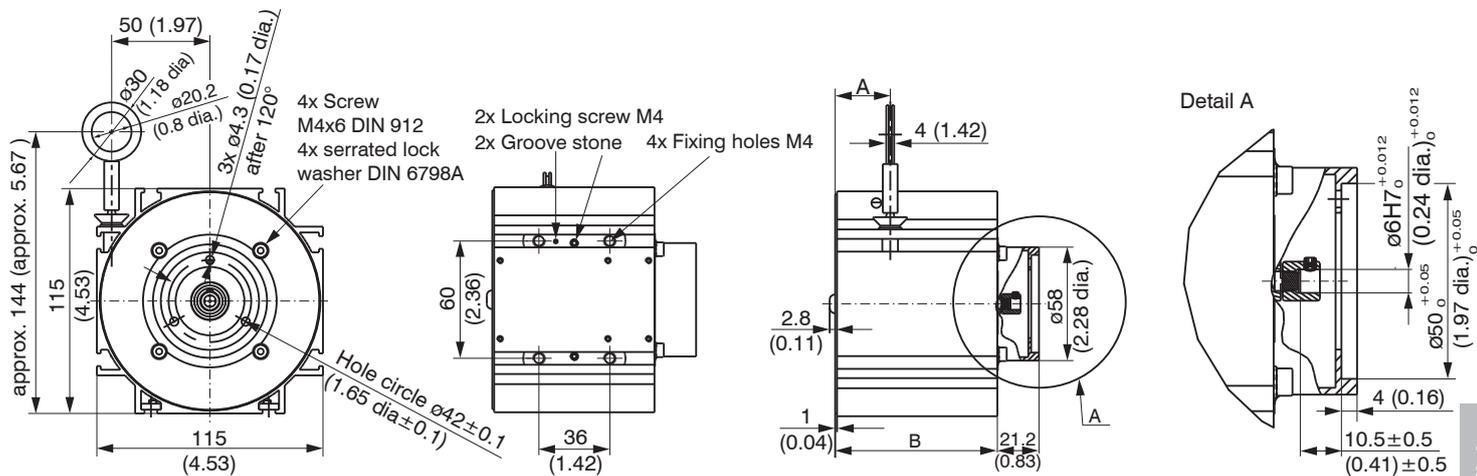

Fig. 6 WDS-P115-M series, dimensions in mm (inches, rounded off)
- P115 series: 4x M6 DIN 931 and 2 slot nuts, see Fig. 6.